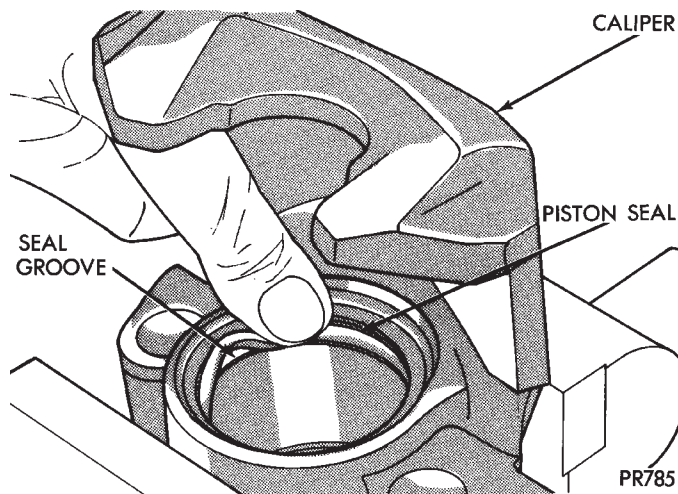

**Fig. 163 Installing New Piston Seal In Caliper**
(1) Clamp caliper in a vise (with protective caps installed on jaws of vise).
(2) Dip new piston seal in clean brake fluid and install in the groove of the caliper bore. Seal should be positioned at one area in groove and gently worked around the groove (Fig. 163), using only your fingers until properly seated. **NEVER USE AN OLD PISTON SEAL.** Be sure that fingers are clean and seal is not twisted or rolled (Fig. 163).